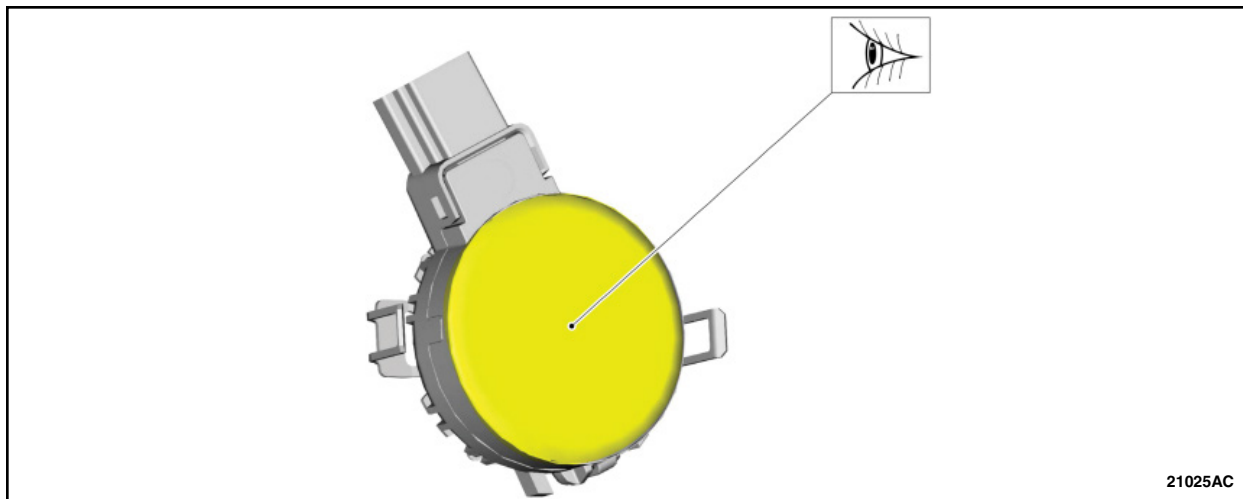

FIGURE 23
26. Inspect the rain sensor gel pack for damage. See Figure 23.